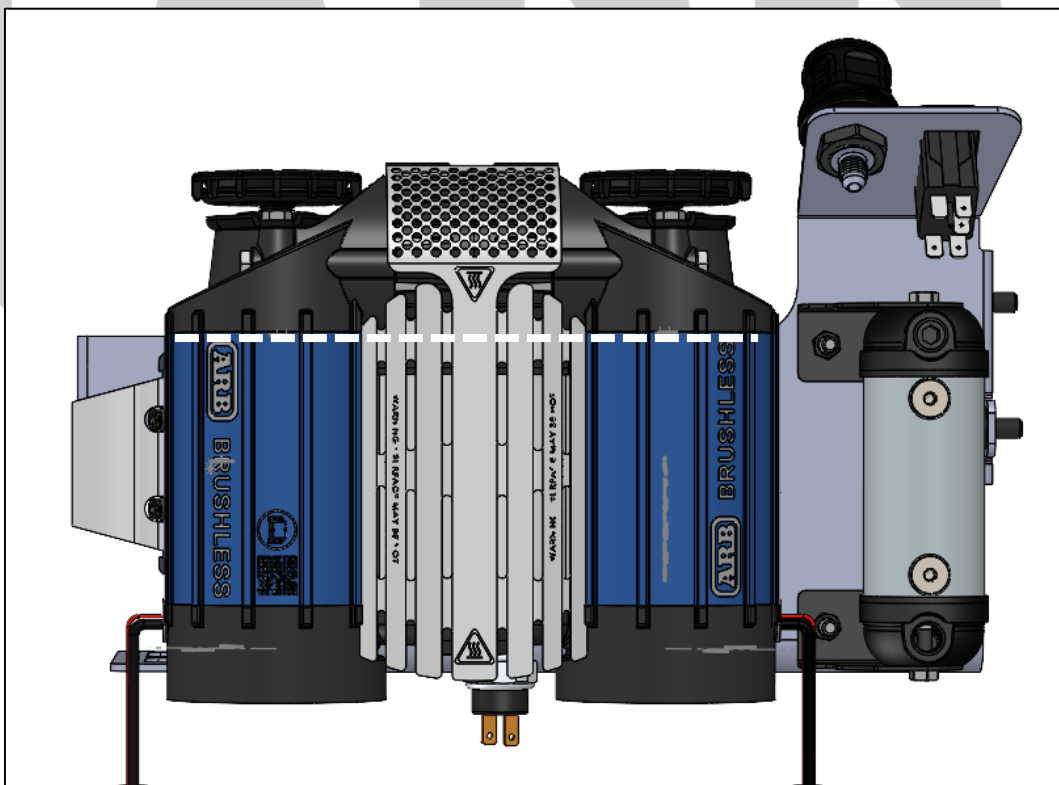

Figure 11. Brushless Twin Compressor bracket pre-assembly rear view
- ☐ Refer to the respective compressor manual to adjust the compressor height. Align the top of the blue motor tubes with the top edge of the bracket as shown in Figure 11.